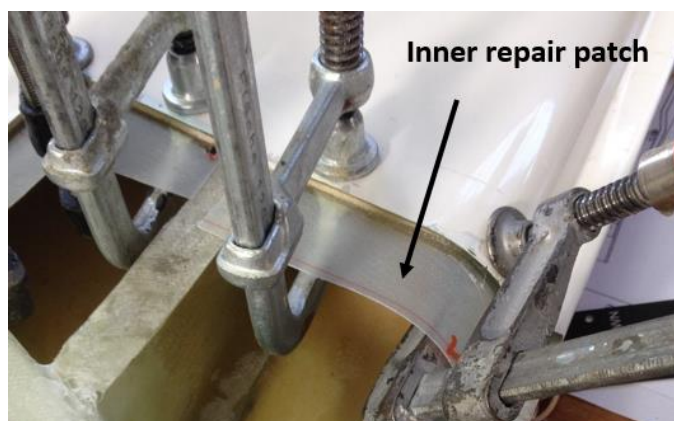
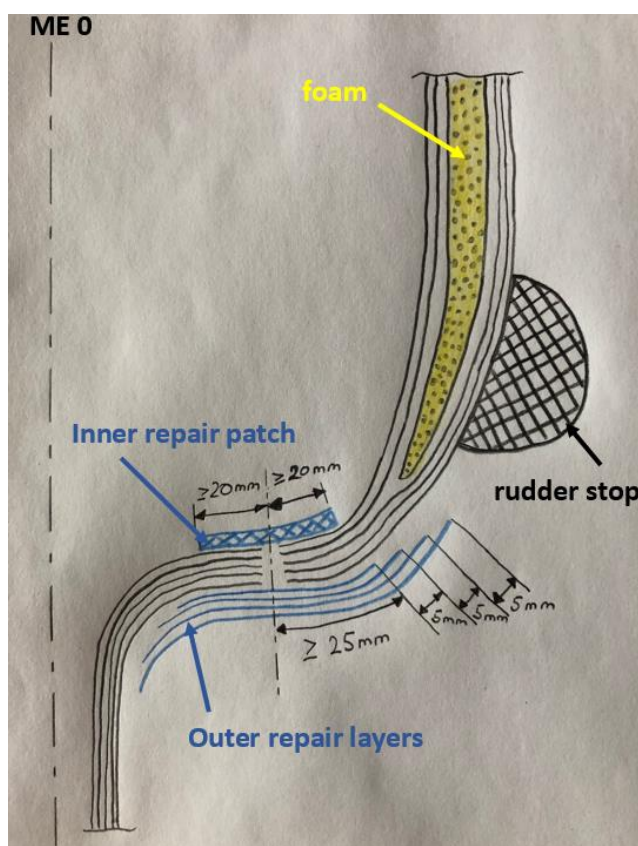

Figure 11: Example of attached inner repair patch
Figure 12: Repair sketch for lower access
7.1.25.1 Prepare a repair patch with three glass layers GS510030 ($\pm 45^\circ$, $0^\circ/90^\circ$, $\pm 45^\circ$) for the inner repair area with a minimum width of 40mm. Refer to Figure 11 and Figure 12. Let the repair patch cure at room temperature for at least 12hrs (GS510020-12) or 6 hrs (GS510020-13); then perform the 1st stage of the post-curing cycle for 8hrs at 60°C according to AMM Chapter 51-20.
7.1.25.2 Grind the inside and outside repair area of the lower rudder access as well as the inside and outside of the removed cutout. Remove the paint on the outside repair area as required, refer to Figure 12 for dimension.
7.1.25.4 Remove the peel ply from the inner repair patch and bond it with thickened resin to the inner rudder shell, refer to Figure 11 and Figure 12. Use screw clamps to fix the inner repair patch in position.
- For details refer to Figure 12.